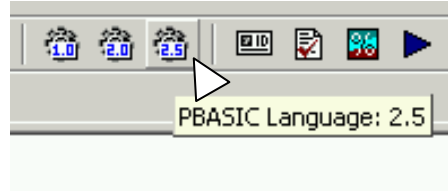

Figure 1-36
- √ Next, click on the gear icon labeled “2.5” shown highlighted in Figure 1-36. Its flyover help description is “PBASIC Language: 2.5”.